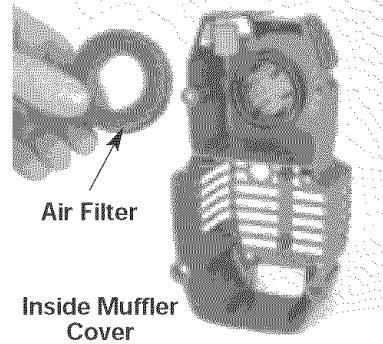

Fig. 19
2. Turn cover over and look inside to locate the air filter. Remove the air filter from inside the air filter/muffler cover (Fig. 19).
6. Replace the air filter inside the air filter/muffler cover (Fig. 19).